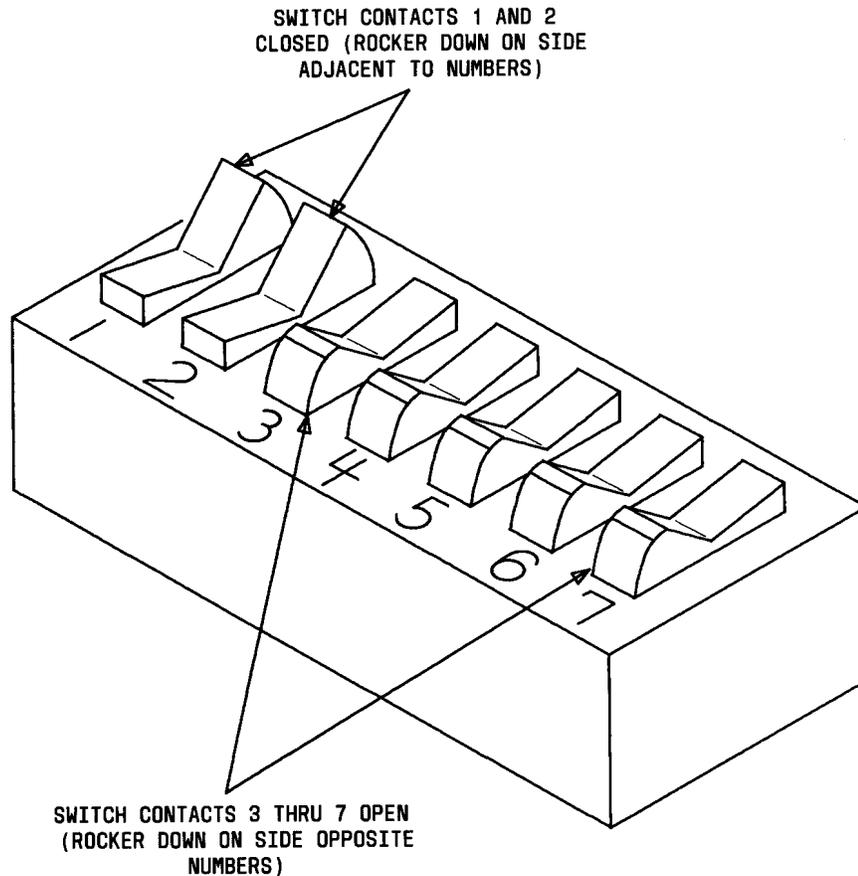
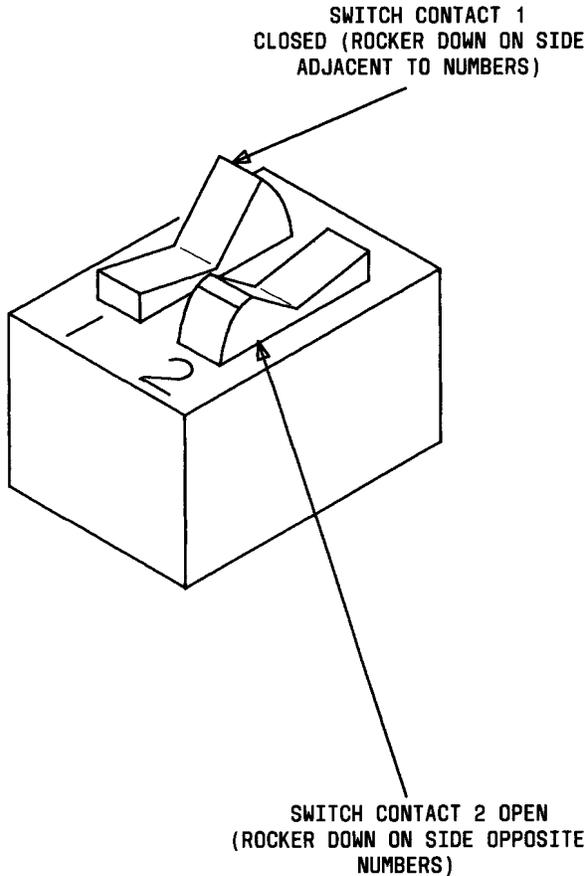

Fig. 2—Option Switch S2
Fig. 3—Option Switch S3
3.04 Data set options are determined by the switch settings S1 (on data mounting), S2 (Fig. 2) and S3 (Fig. 3) on DS 113DR-L1. A description of the options shown in Table A follows.